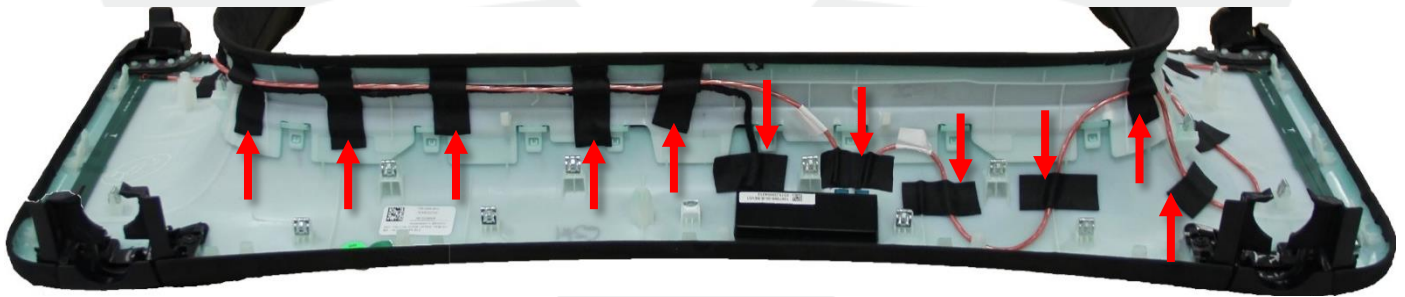

Figure 15 (Side view, RH rear upper door trim panel)
- c. Clean the surface where the tape will be applied (Figures 15–17) with an alcohol wipe. Allow the surface to dry before continuing.
- e. Route the wiring harnesses as shown in Figures 15–17.